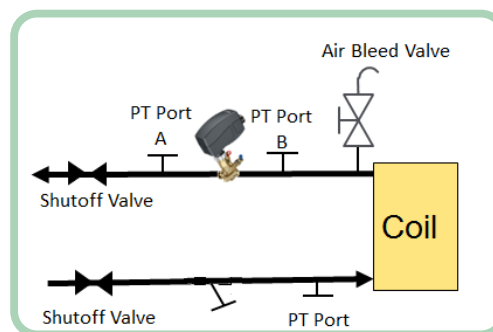

Figure 1. Typical Valve Installation with Field Installed PT Points
1. After completing the Pressure and Flow Verification Requirements, the minimum pressure(s) for the critical valve(s) to operate typically are checked by measuring the differential pressure across the valves' inlets and outlets using PT Points, which would be between Port A and Port B as shown in Figure 1.